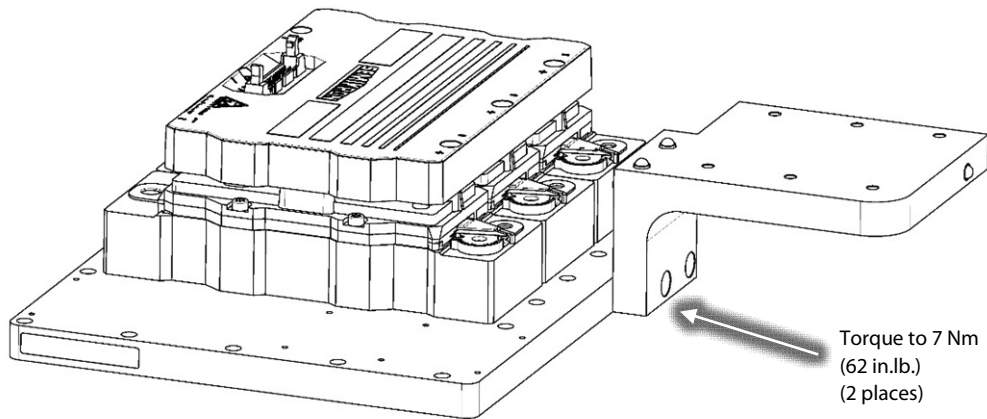

Figure 23 – SCR Cooling Manifold Installation
2. Reinstall the SCR cooling manifold to the Inverter cooling manifold reusing the two (2) fasteners and torque to specification. Refer to Figure 23 (SCR Cooling Manifold Installation).